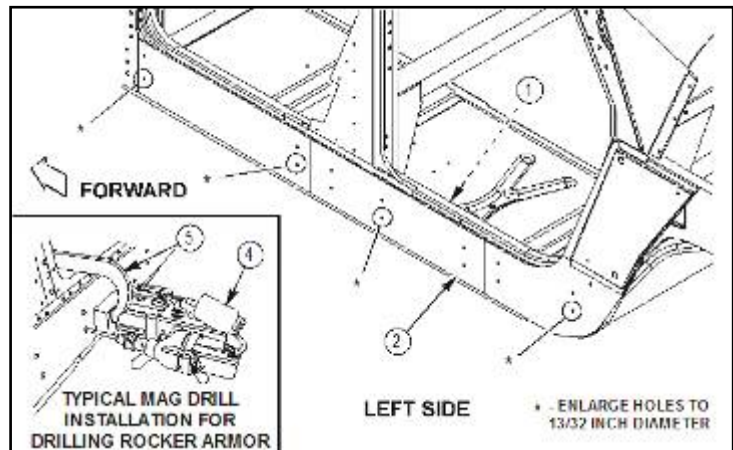

Figure 10a.
3. Attach mag drill (4) to left side rocker panel armor (2) and align with one of the specified hole locations. Refer to figure 10a.
4. Install C-clamp (5) to prevent mag drill (4) from slipping. Refer to figure 10a.
5. Drill 13/32 inch diameter hole through left side rocker panel armor (2) and inner liner (1) using mag drill (4) with armor-cut drill bit and 600-2-5036 cutting oil. Refer to figure 10a.